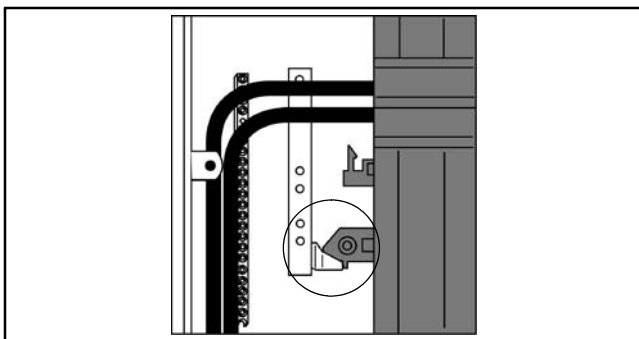

Figure 4-1 Inspecting Load Center Mounting Ears
5. Referring to Figure 4-1, inspect the load center interior assembly mounting ears to ensure proper engagement in the back surface slots of the enclosure. All mounting ears must be engaged with their respective slots or misalignment of the transfer mechanism can occur.